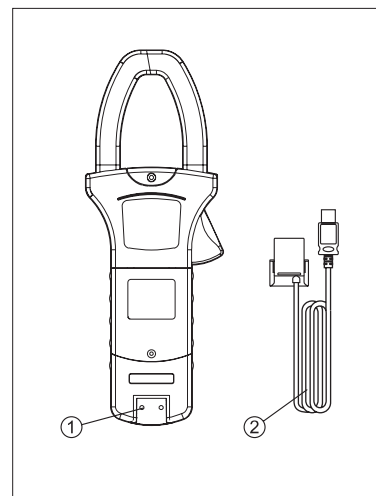

Figure 2
⑪	V1 Input Terminal (First Phase measurement)
⑫	COM Input Terminal
⑬	CLEAR button
⑭	Σ button (Sum)
⑮	SAVE button (data store button)
⑯	USB button
⑰	LIGHT button (auto display backlight button)
⑱	HOLD button
⑲	LCD Display
⑳	Testing Leads (Red, Black, Blue and Yellow)
B. The Meter Back and Bottom Structure (see figure2)